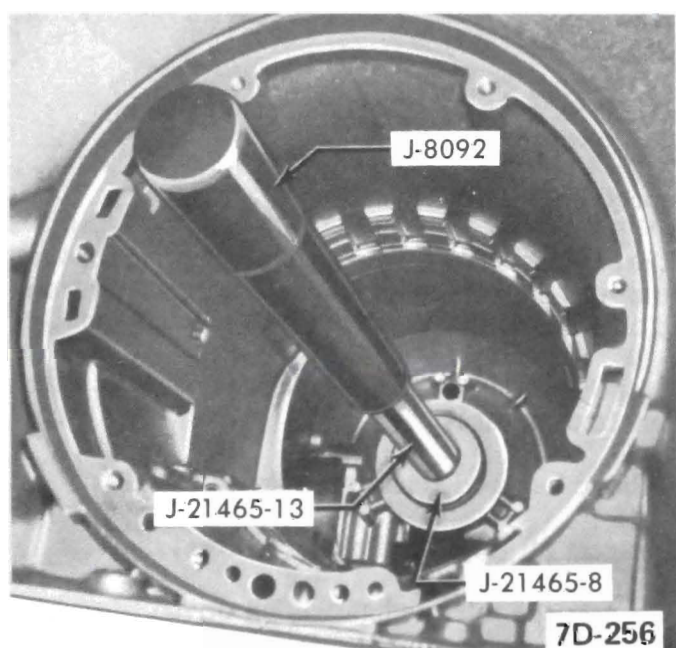

Figure 7D-180
a. Thread Extension Handle J-21465-13 into Bushing Remover J-21465-8. Using Drive Handle J-8092 remove bushing. See Figure 7D-180.
b. Using Adapter J-21465-9 on J-21465-8 driver handle and extension J-21465-13, with lube passage facing front of transmission case, install new bushing into case, until .040" - .055" above selective thrust washer face. See Figure 7D-181.